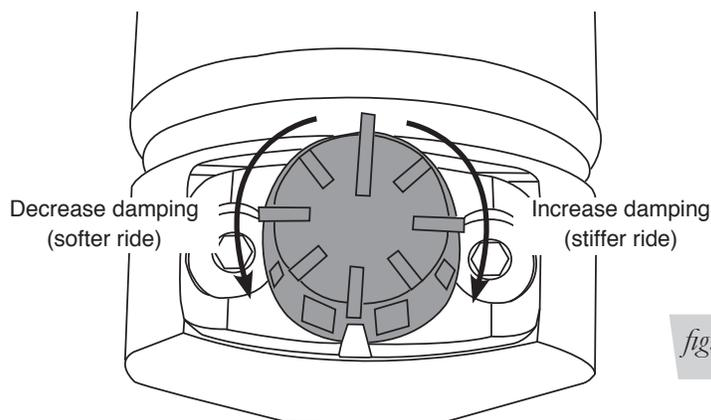

fig. 10
1. Some struts for this vehicle come with a nine-position damping dial for added adjustability (fig. 10). If not, proceed to 2.